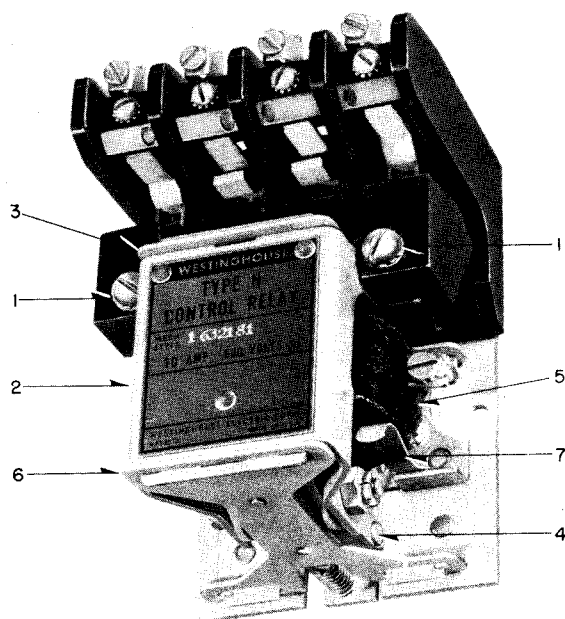

FIG. 1. Type N Control Relay
Changing Coils. (Refer to FIG. 1) — After disconnecting leads to coil terminals, remove crossbar mounting screws (1) and remove crossbar assembly complete with moving contacts. Next, disengage armature bracket (2) from upper bearing arm (3) by applying pressure with thumbs to upper part of nameplate until the tongue on the bearing arm is freed from the hole in the armature bracket. The armature bracket (2) can then be swung outward and downward until the center leg of the armature (4) clears the coil (5).